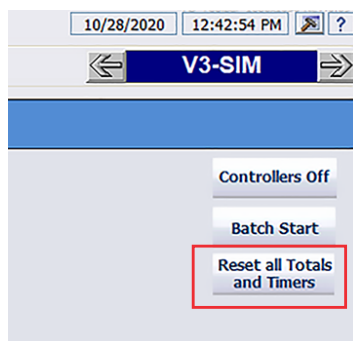

Figure 2.20. Reset all Totals and Timers button in standard TruBio.
Reset all Totals and Timers (Figures 2.20 and 2.21) allows you to reset all timers and totals to zero (0).